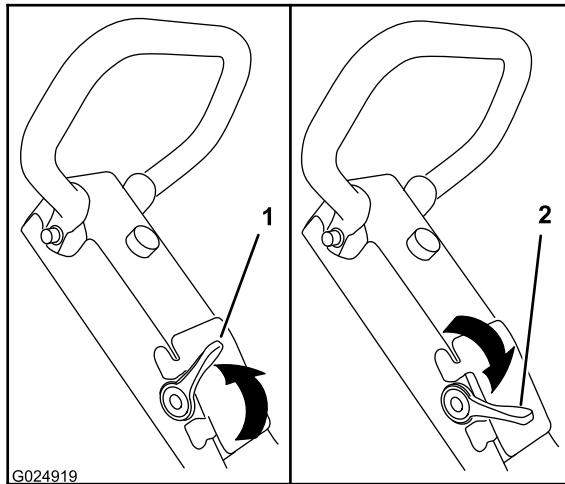

Figure 11
- 1. Set the throttle to the Slow position (Figure 11).
- 6. Move the throttle lever to the fast position (Figure 11).
- 1. Set the throttle to the slow position (Figure 11).
- 3. Move the throttle lever to the Fast position (Figure 11).
- 1. Move the throttle-control lever to the Slow position (Figure 11).